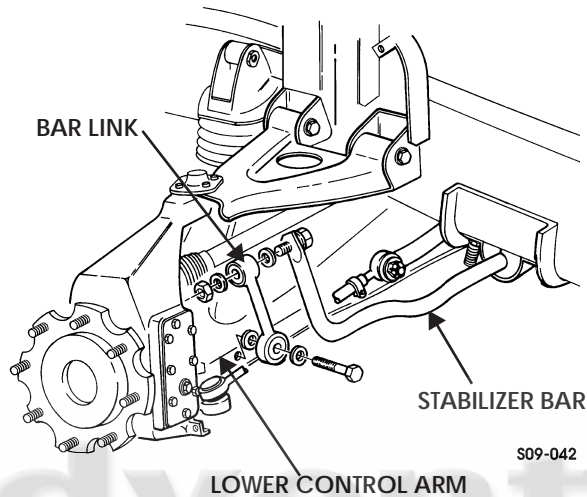

Figure 9-3: Stabilizer Bar Link
1. Remove locknut and two washers securing bar link to stabilizer bar. Discard locknut (Figure 9-3).
1. Apply thread-locking compound to threads of capscrew. Install bar link to lower control arm with two washers and capscrew. Tighten capscrew to 70 lb-ft (95 N•m) (Figure 9-3).